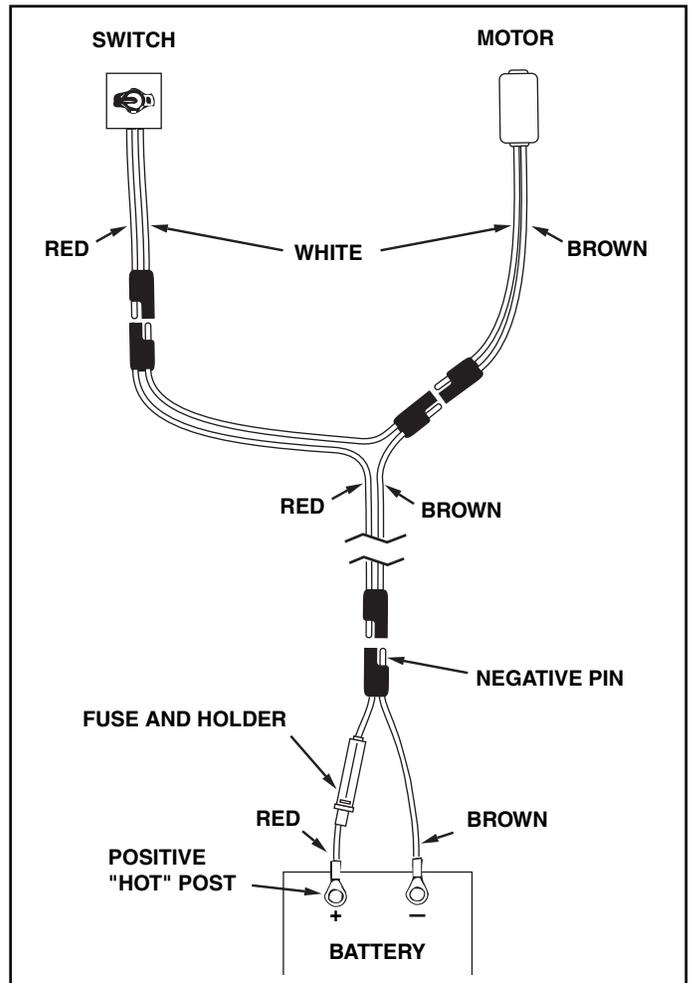

FIGURE 13
- Assemble spreader shield to the front swivel brackets using two 1/4" x 3/4" carriage bolts, 1/4" washers and the two 1/4" plastic knobs. See figure 13.
- Assemble spreader shield to the rear swivel brackets using two 1/4" x 1" hex bolts, four 1/4" washers and two 1/4" Nylock nuts. **Tighten** the nuts so that the swivel bracket can still pivot freely. See figure 13.
- 24. Move the flow control lever to "OFF". This should turn the "ON-OFF" switch off. If it does not, you can loosen the control and rotate it enough that the flow control lever, when moved to the "OFF" position will turn the switch off. See figure 13.